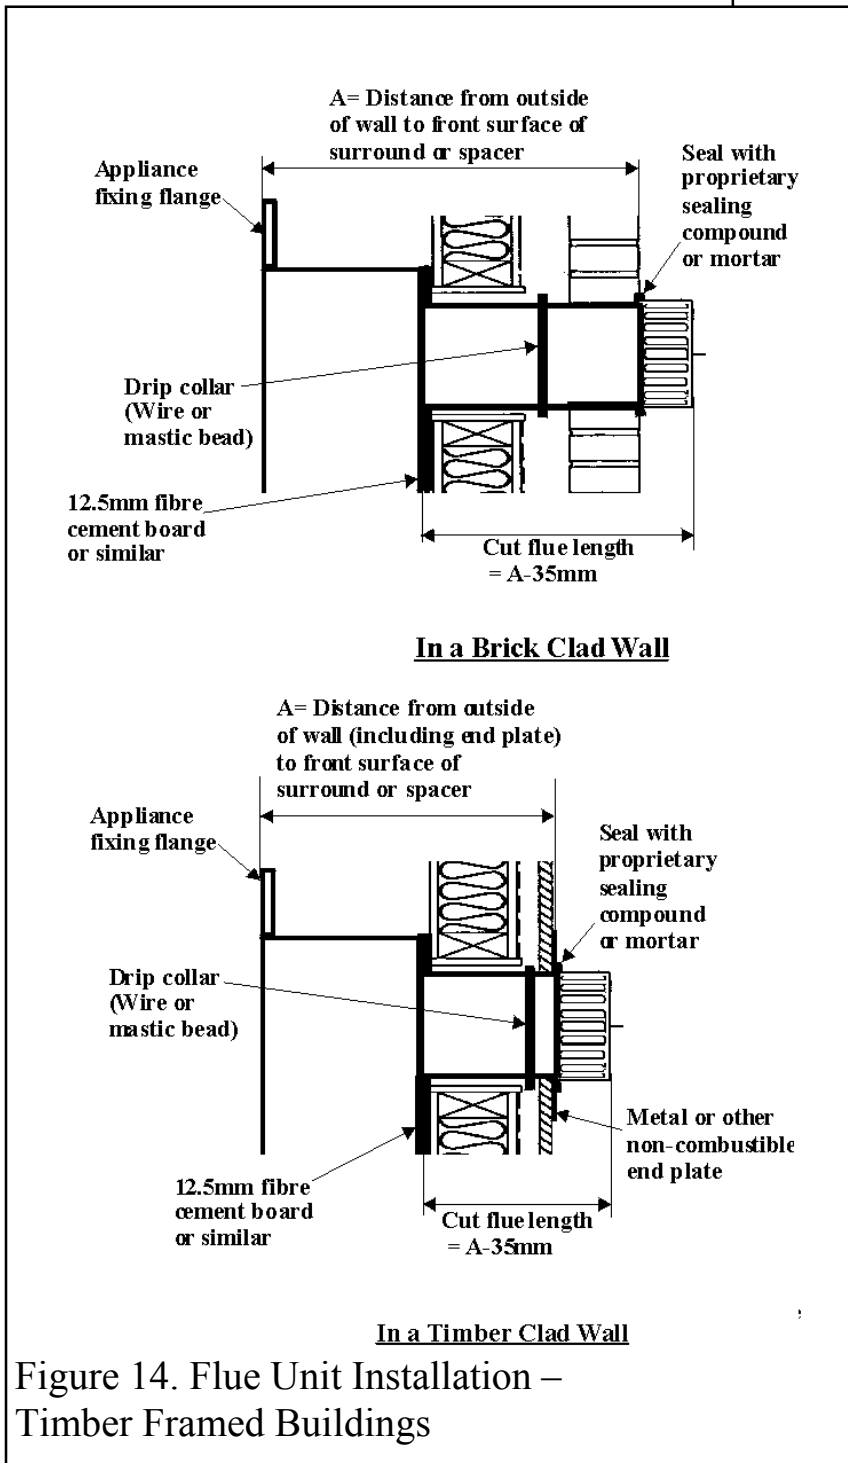

Figure 14. Flue Unit Installation – Timber Framed Buildings
- Timber frame buildings: Offer the fire complete with flue unit through the insulating sheet (mentioned in section 5.3). Fit a drip collar round the flue positioned so that it will be located in the centre of the wall cavity – see figure 14. The drip collar can be made by wrapping a non-corrosive wire round the flue or moulding a bead of mastic round the flue. A Timber frame flue clearance kit is available. Part no. 0583141
- Timber frame building with combustible outer leaf (e.g. shiplap boarding): A metal or other non-combustible end plate must be fitted on the outside of the wall. The plate must be concentric with the flue and at least 254mm (10in) square or diameter. See figure 14.